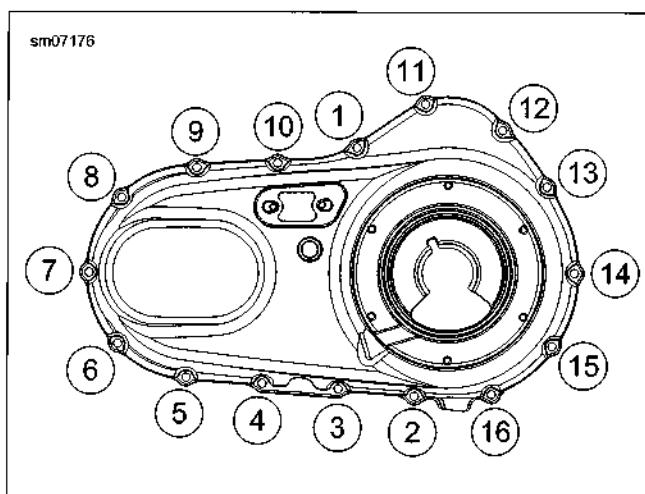

Figure 5-8. Outer Primary Cover Torque Sequence
4. See Figure 5-8. Install primary cover and gasket using 16 screws with captive washers. Tighten to 100-120 **in-lbs** (11.3-13.6 Nm) in sequence.